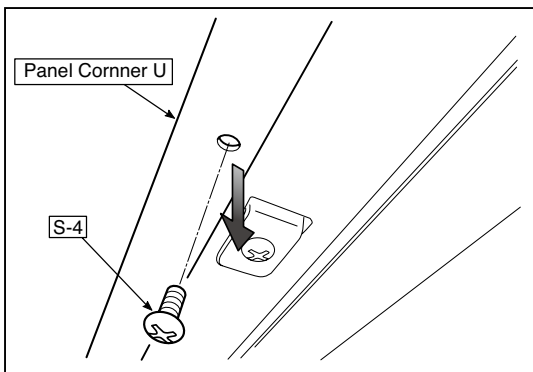

Fig.24
1. Remove the "S-4" and "S-7" screws shown in the figure 24 and then remove the Panel Corner (U).